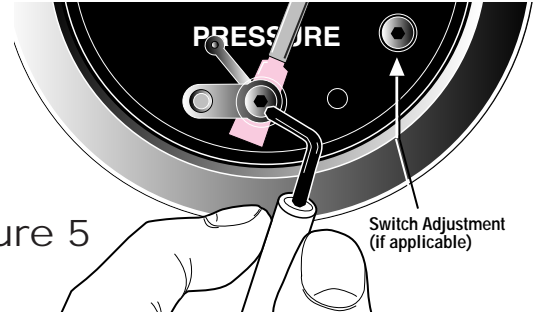

Figure 5
1. All contacts are set using a 1/16 in. hex wrench (Figure 5).
1. With equipment running; use a 1/16 in. hex wrench to rotate contact until it touches the pointer. **Do NOT force contact against the gage pointer.** Equipment should shut down and/or alarm should operate. *Reset the contact* (See Figure 5).